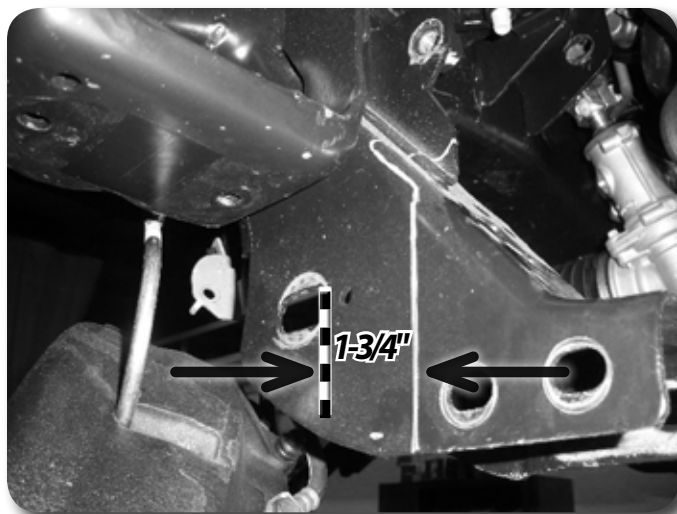

Figure 18
33. On the back side measure from the inside edge of the control arm slot $1\frac{3}{4}$ " and mark (Figure 18). Make a vertical cut line at the mark.